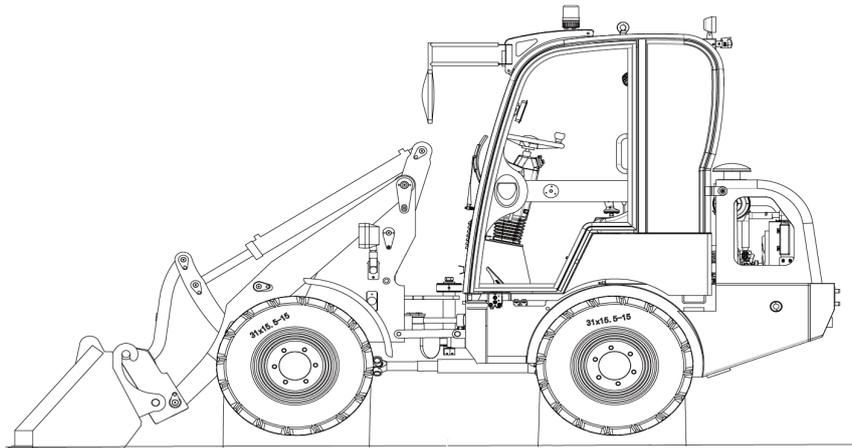

Figure 6-32 Parking position
(1) Oil plug/ port
Step 2: Stop loader, place control handle in neutral position, pull up parking brake handle, put the blocks before and after the tires, as shown in Figure 6-32: